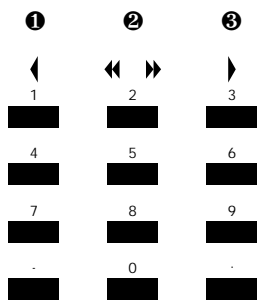

Fig. 2.2 — The columns of the numeric keypad indicate the direction and speed of a JOG.
Concentrate first on the column convention. For better identification, we can label them ①, ② and ③ (Fig. 2.2).